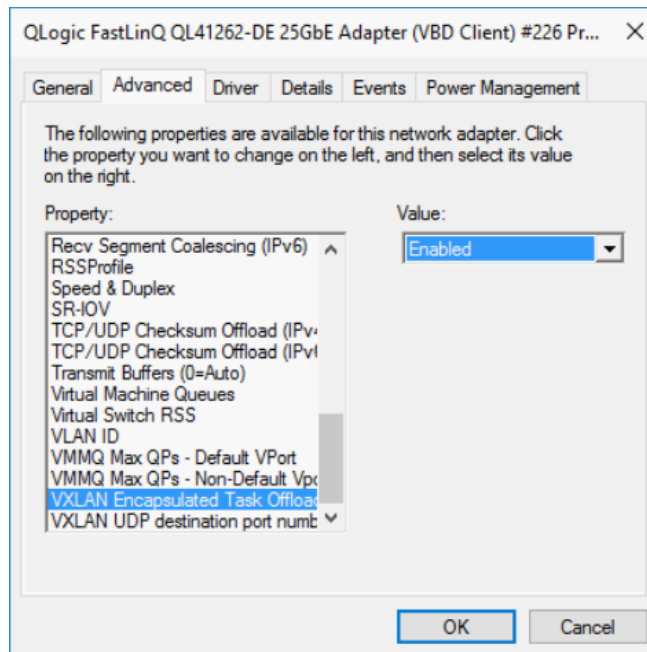

Figure 13-16. Advanced Properties: Enabling VXLAN
2. On the Advanced Properties page (Figure 13-16) under **Property**, select **VXLAN Encapsulated Task Offload**.